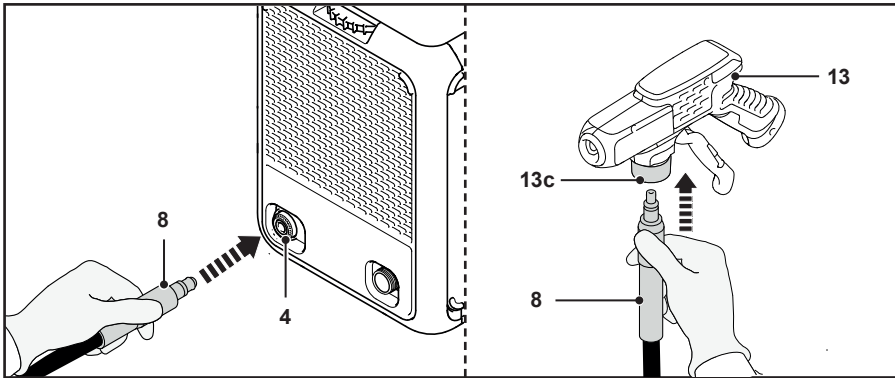

Fig. 3
1. Insert either one end of the high-pressure hose (8) into the water outlet (4) (Fig. 3).
2. Push the high-pressure hose (8) firmly into the quick connector on the water outlet (4) (Fig. 3).
3. Insert the other end of the high-pressure hose (8) into the hose inlet (13c) on the spray gun (13) (Fig. 3).
4. Push the high-pressure hose (8) firmly into the quick connector on the hose inlet (13c) (Fig. 3).